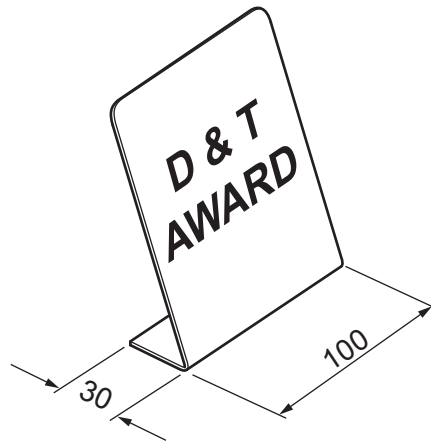

Fig. 10.1
- 10 Fig. 10.1 shows an incomplete design for a trophy made from 1 mm thick brass. The trophy requires a wooden base to make it stable.